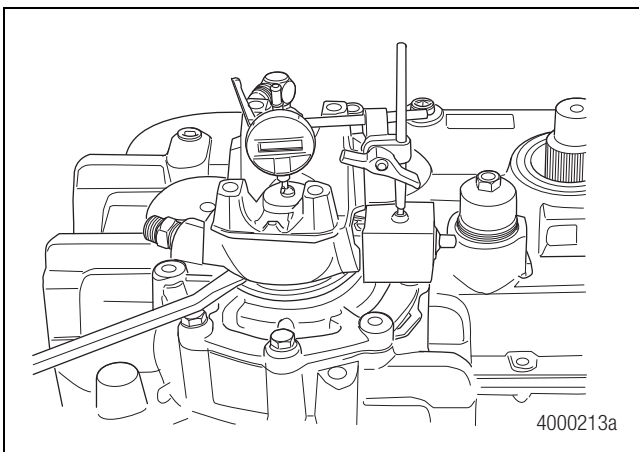

Figure 6.29
1. Set up a dial indicator to check input shaft bearing end play. Center the dial indicator over the shaft using a ball bearing for accuracy. Figure 6.29.